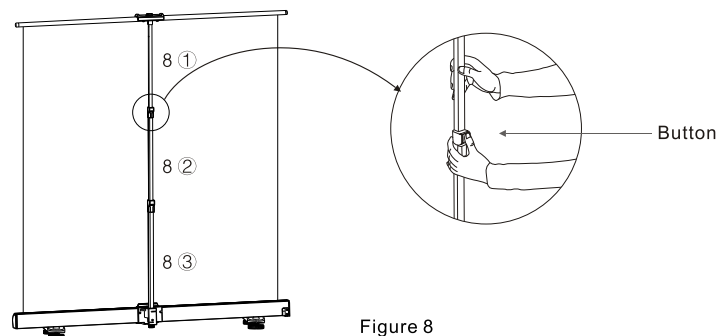

Figure 8
4. Pull up and lock the uphold bar(8) to the desired height. The screen is fully released. The screen height could be adjusted to 6 different levels by adjusting locking position of uphold bar. (Figure 8)